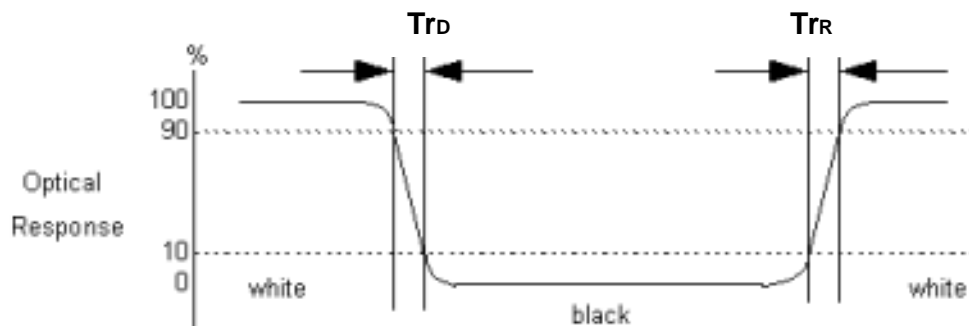

**Fig.4-2 Optical measurement point**
2. Surface luminance is luminance value at point 1 across the LCD surface 50cm from the surface with all pixels displaying white. From more information see Fig. 4-2. When  $V_{DDB} = 24V$ ,  $I_{DDB} = TBD$ .